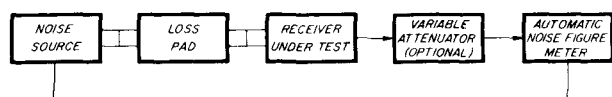

fig. 8. Measuring noise figure with the automatic noise-figure meter. The use of the loss pad and variable attenuator are discussed in the text.
1. Connecting the receiver under test as shown in **fig. 8**. For the purposes of this discussion, the term "receiver" means any receiver or portion thereof (such as a converter, mixer, etc.) which provides an output signal at the input frequency of the noise-figure meter.
Let us now examine fig. 8 block by block. Most important, there should be a direct connection between the noise-source output connector and the loss pad, and between the pad and the receiver. This means *no cables*, and a minimum of adapters.
fig. 9. Using an external mixer and signal source to convert the receiver output frequency to that of the noise-figure meter input. The "receiver under test" corresponds to the equivalent block in fig. 8.
the use of the variable attenuator shown in **fig. 8**. The amount of attenuation which is introduced should be 6 to 10 dB less than the value which causes the receiver output to fall below the threshold required to establish the reference level.
If a signal generator is used as the signal source, it can function indirectly as the variable attenuator shown in **fig. 8**. Varying the signal-generator output will vary the conversion loss of the mixer and permit
In order to measure the noise figure of a preamplifier, the test setup of either fig. 8 or fig. 9 is used, with the preamp inserted between the loss pad and the receiver. To prevent any possible instability of either the preamp or the converter, in the event that either is not unconditionally stable, it is wise to use an additional loss pad between the preamp and the converter, directly at the converter input. This pad should provide about 3 dB loss; the exact value is not critical nor need it be known accurately. Its effect will be incorporated into the measured noise figure of the